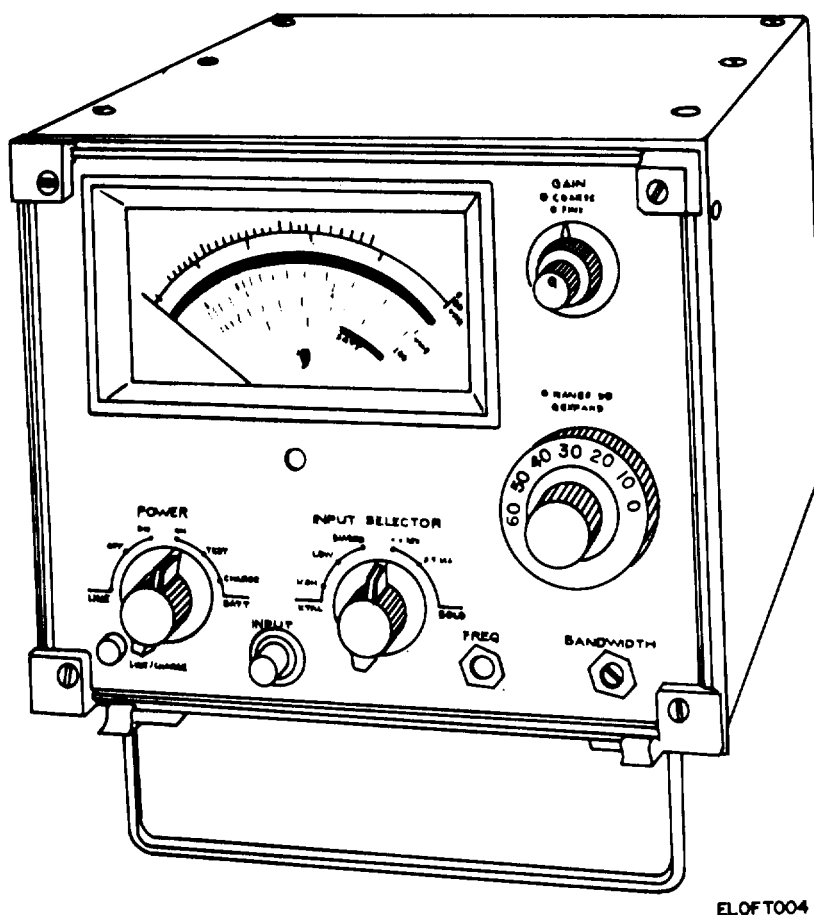

Figure 3-1. Front panel controls and indicators, IM-157E/U.
a. A complete listing of all controls and indicators used by the operator may be found in table 3-1. The front panel of the SWR Indicator is illustrated in figure 3-1.